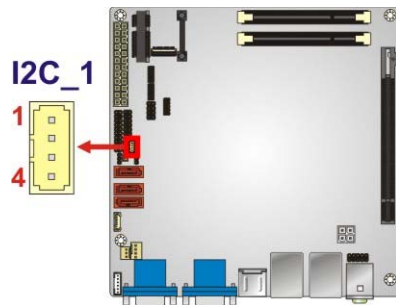

Figure 3-14: I2C Connector Pinout Location
- CN Location:** See **Figure 3-14**